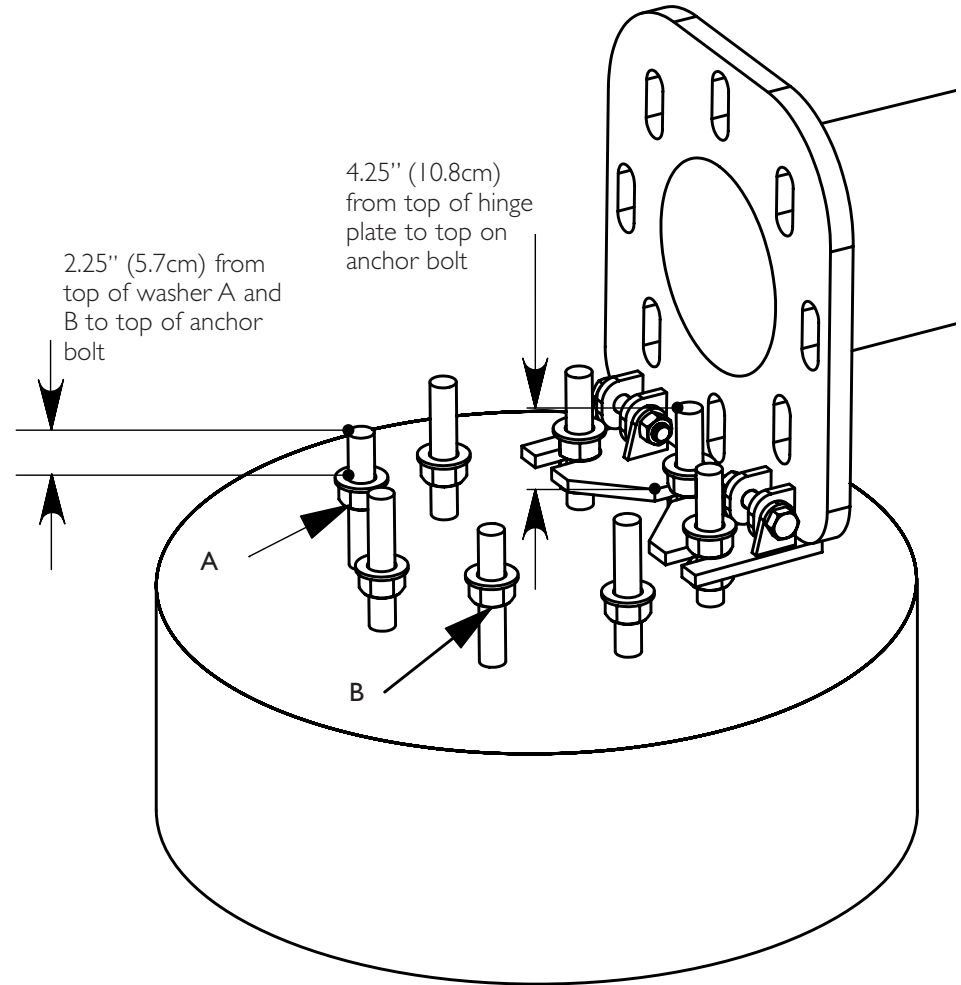

Fig. 2C Hinge assembly and nut placement.
- Determine the three foundation bolts to be used to mount the hinge. The hinge is installed in the direction the tower will be “tilted down”. Refer to Fig. 2C.
- Adjust the remaining nuts as shown in Figure 2C. The "A" and "B" nuts should be adjusted such that 2 1/4" (5.7 cm) of the bolt extends above the washer. The remaining three nuts should be adjusted lower than the "A" and "B" nuts. These nuts will be tightened after leveling the tower.
- Adjust the remaining nuts as shown in Figure 2C. The "A" and "B" nuts should be adjusted to be level with nuts securing the hinge. The remaining three nuts should be adjusted to a lower level than the "A" and "B" nuts. These nuts will be tightened after leveling the tower.
- Securely tighten the 1 1/4" nuts that secure the hinge to the foundation bolts. Check the distance from the top of the hinge to the top of the foundation bolts is 4 1/4". Adjust if necessary. Refer to Fig. 2C.
- Loosen and lower the four nuts on the “sides” of the foundation base plate. In other words the tower should be supported by the four “corner” nuts of the tower base plate. (refer to Fig. 2C, Bolts A and B are “corner” bolts)